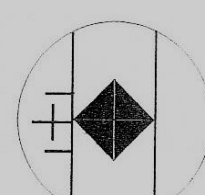

Fig.9
- 3.4.14 Rotate the right drum wheel to make the inner side of the RIGHT graduated line tangent to the right tip of the indentation as shown in Fig9.